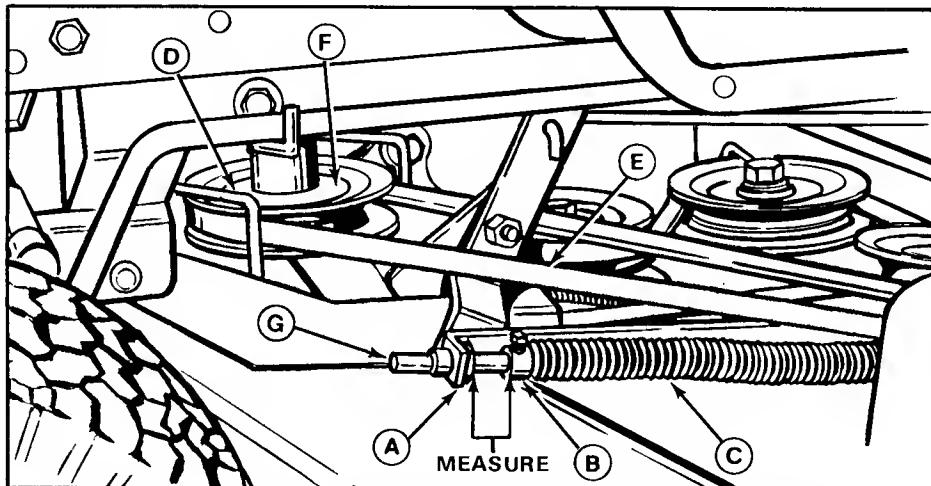
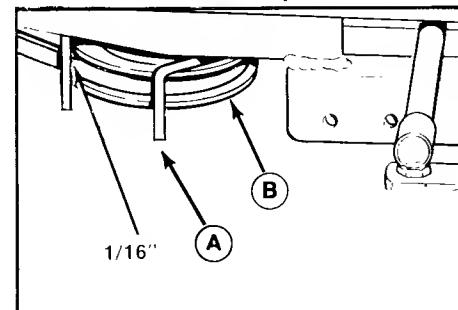

Figure 34. Mower Drive Belt Tension Adjustment - 42" Mower Shown.
Figure 35A. Right Hand Belt Stop,
2. Measure the distance between the PTO rod guide (A, figure 34) and the set collar (B). For the 36" mower the measurement should be 3/8 to 1/2 inch (10 to 13 mm). For the 42" mower the measurement should be one inch (25.4 mm).
4. Loosen the setscrew in the set collar (B). Move the rod (G) forward to increase gap, or backward to decrease gap. Retighten the setscrew.
Adjust the left-hand belt stop (figure 34) and the right-hand belt stop (figure 35A or 35B) to obtain 1/16 in (1.5 mm) from belt with PTO engaged. Loosen capscrew to adjust. If 1/16 inch cannot be obtained without touching pulley, place as close as possible.